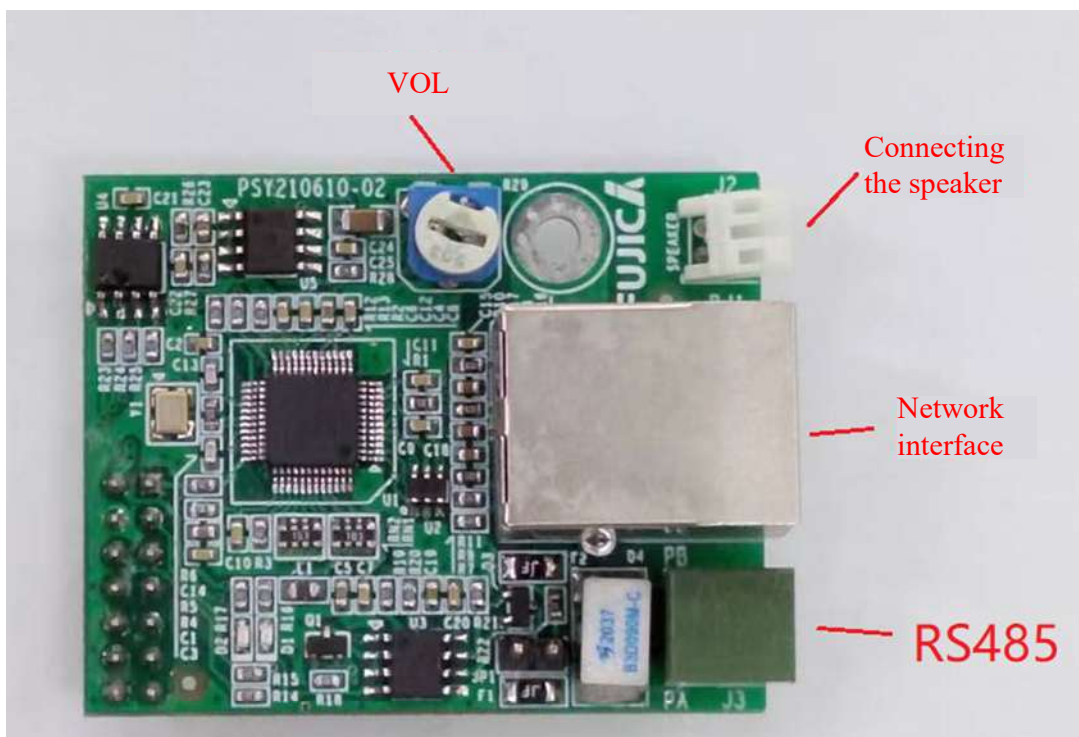

Figure 7-3 Voice Board Diagram
- (1) Tap a card or attempt to force entry to verify that the speaker is working properly.;
- (2) Adjust the variable resistor shown in Figure 7-3 to verify that the volume changes accordingly